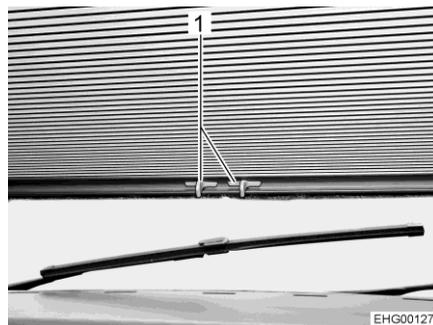

Fig. 31 Roman shade (windscreen)
- Press handles (Fig. 31,1) together and pull shade downwards.